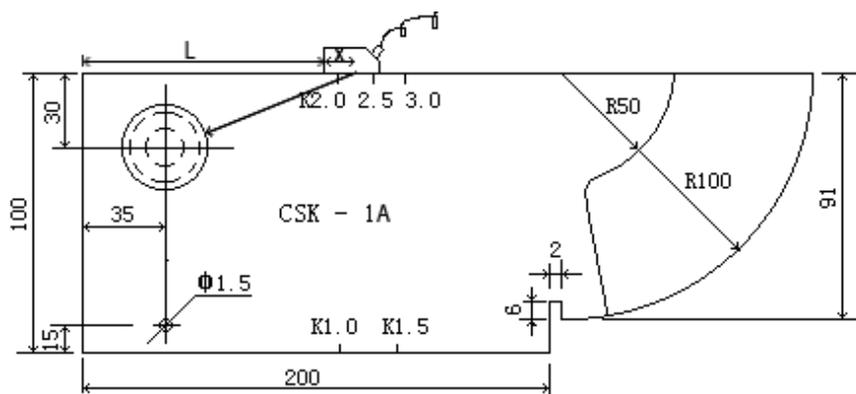

Figure 4-7
5. Calibrate the probe K value (angle): couple the probe to the CSK-IA test block and move it back and forth, as shown in Figure 4-7, till the reflection echo of the circle of $\phi 50\text{mm}$ reaches the highest level,